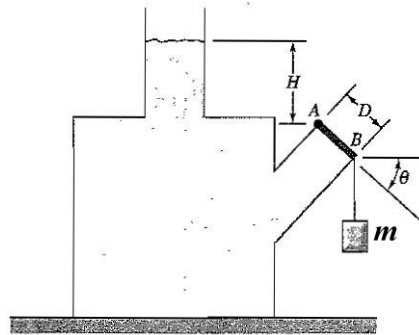

Figure P2.92
2.92 A vessel of constant width W is filled with water, and the surface is open to atmospheric pressure. On one side, a relief valve is located, as shown in Figure P2.92. The relief valve has the same width as the vessel, and it has a length D . It is hinged without friction at point A . At point B , a mass m is connected to the gate to keep it shut. Find m in terms of H , D , θ and ρ , where ρ is the density of water.